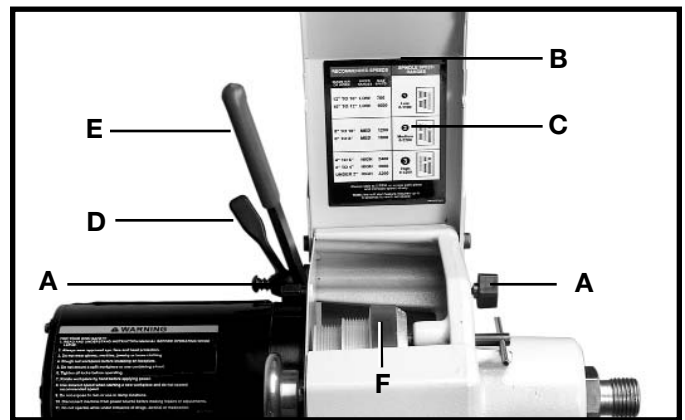

Fig. 24
1. Loosen wing knobs (A) Fig. 24.
2. Tilt cover (B) to open position, showing speed range chart (C).
3. Loosen lever (D) 1/4 turn.
4. Pull lever (E) forward to remove tension from the belt. **NOTE:** While lever (E) is in forward position, tighten lever (D) to hold lever (E) in position while changing belt positions.
5. Move belt (F) to desired position (refer to chart) (C) Fig. 24.